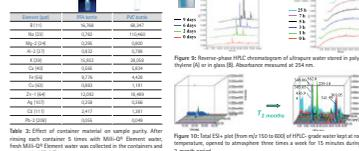

Figure 7: Evaluation of resistivity and TOC levels in ultrapure water after addition of sucrose in the storage reservoir.
Ultrapure water has a real advantage: it has a high affinity for chemicals in its surroundings and can absorb chemicals readily from storage containers, as well as chemical vapors from the laboratory air. Figure 7 shows that the polyethylene carboys and wash bottles commonly used to store water in laboratories can leach organic molecules into ultrapure water. Glass containers leach less organics, however they may leach inorganic compounds. Polyvinyl chloride (PVC) and Polypropylene (PP) are also commonly used sample containers. Table 3 shows that many compounds may leach from these polymers into ultrapure water, as seen by GC-MS. Figure 8 shows that chemicals present in laboratory air may also be absorbed by ultrapure water and affect LC-MS results.